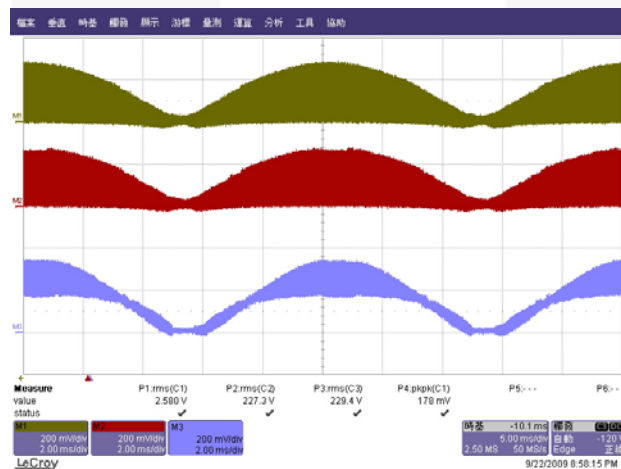
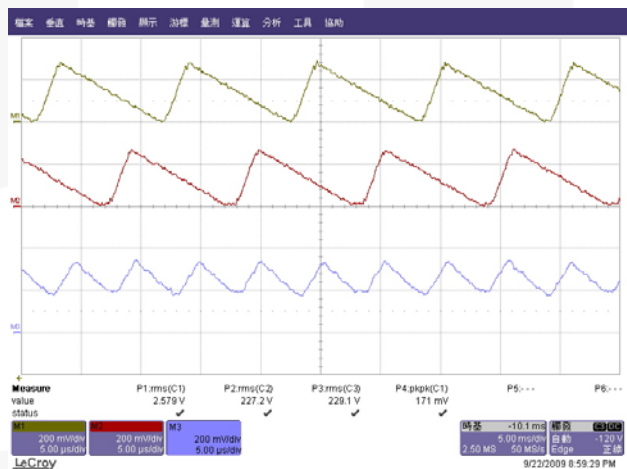

Figure 13.  $230V_{AC}$  / 50Hz Full Load
Figure 14.  $230V_{AC}$  / 50Hz Full Load
- Figure 13 and Figure 14 show the two inductor currents and the sum of two inductor currents at  $230V_{AC}$  line voltage and full-load conditions. The sum of the inductor currents has relatively small ripple due to the ripple cancellation of interleaving operation.